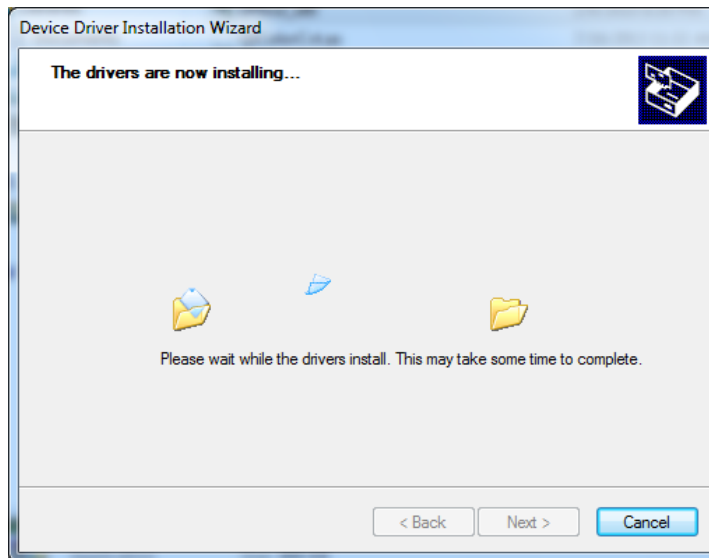

Figure 3-3: Driver Installing
Step 6: The driver starts to install and the screen in **Figure 3-3** appears.